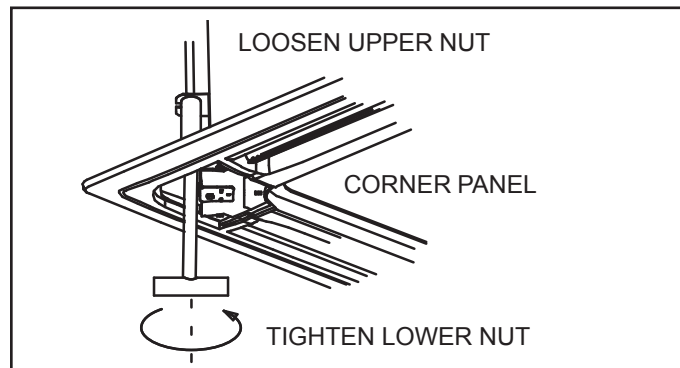

Figure 25. Adjust Unit Height Through Corner Panel
11. If it is necessary to adjust the cassette height after the cover panel has been installed, access the leveling nut through the removable access cover on each corner. See Figure 25.